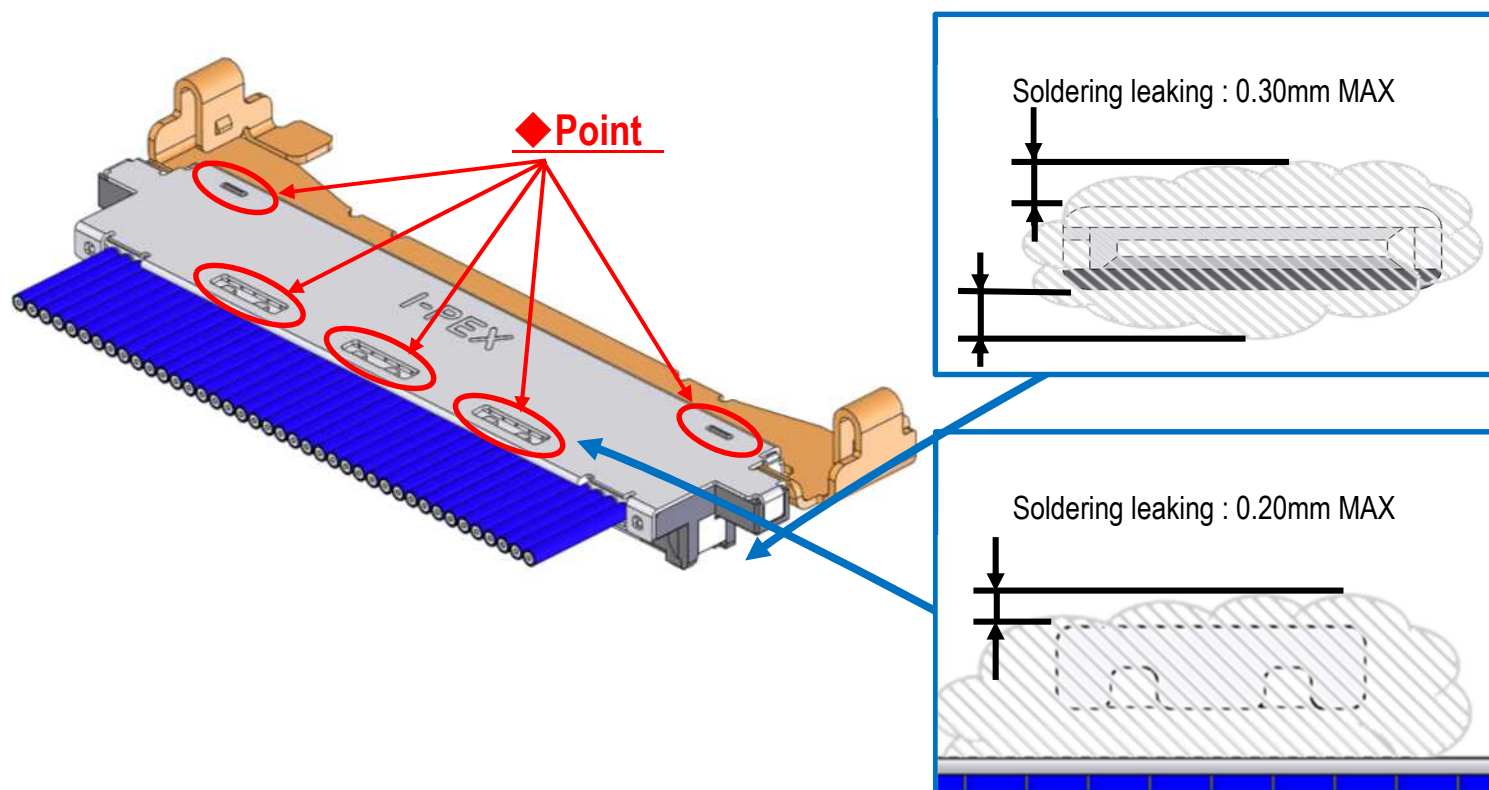

Fig.7 Soldering of SHELL-A and GND BAR
- ③ SHELL-A, B and GND BAR are soldered with the soldering iron at designated points. (Fig.7,8◆point)